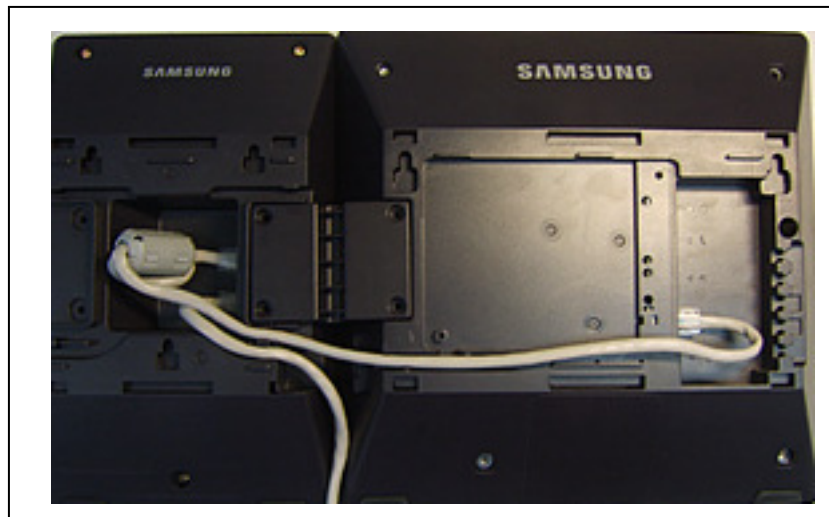

Figure 7.29 Attaching SMT-i5264 AOM to phone
- 4) To connect to the phone, connect the UTP cable between the port and the LAN port of the IP phone. \(See Figure 7.29\).
If PoE is used, PoE connection should be connected to the LAN port of the SMT-i5264 (AOM) first then transfer over to the phone. As shown in Figure 7.29 the SMT-i5264 (AOM) can transfer the power from the LAN port to the phone port, but the phone can't transfer power to the AOM.